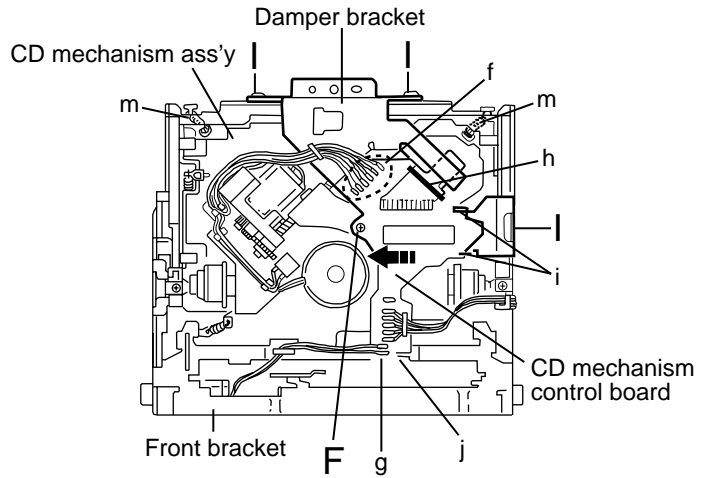

Fig.1
■ **Removing the CD mechanism control board(See Fig.1 and 2)**
(See Fig.1, 6 to 9)